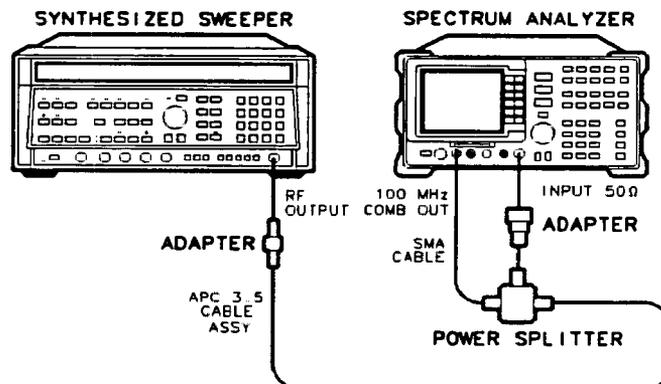

Figure 4-1. Comb Generator Frequency Accuracy Test Setup
1. Connect the equipment as shown in Figure 4-1.